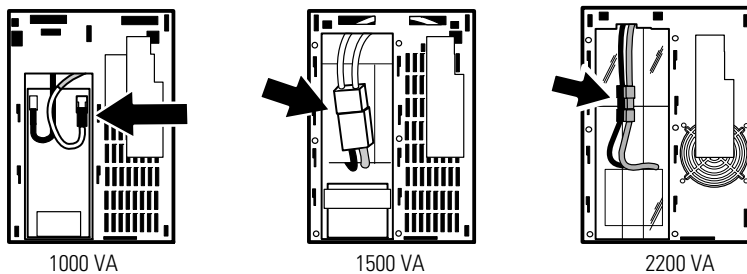

Figure 5. Connecting the Internal Battery Connector(s)
5. Connect the internal battery connector(s) (see Figure 5).